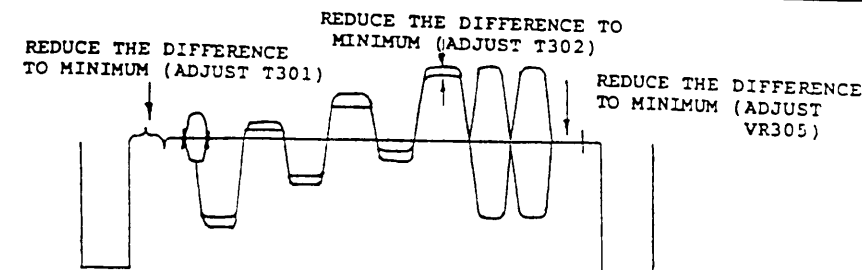

Fig 6.
- 5: Adjust T301, T302 and VR305 to obtain the waveform as fig 6.